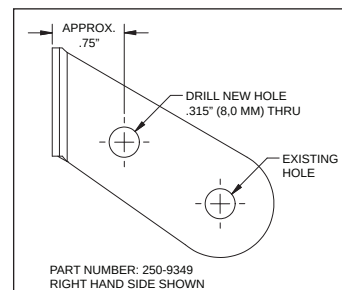

Figure 4. Bracket Modification
• **NOTE:** CRZ only. A new .315" hole needs to be drilled in the hose bracket (P/N 250-9349/50) as shown in Figure 4.